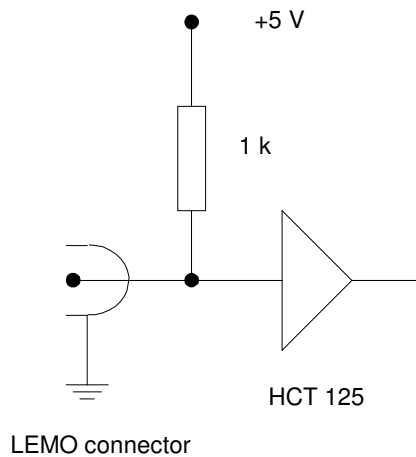

Fig 6 Gate input, internal connection
- Opening the CCD camera reveals the video board that can be seen in fig. 6. The CCD gain can be adjusted with RV301, the automatic gain control can be switched on with SW301 and the gamma characteristic can be changed with switch SW302. Please note the default settings before changing anything!